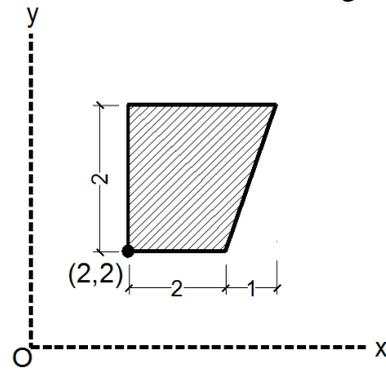

Fig. 5
- (b) The shaded area shown in fig. 5 is revolved about Y axis. By means of a theorem of Pappus Guldinus, determine the volume generated. Dimensions are in cm. **04**